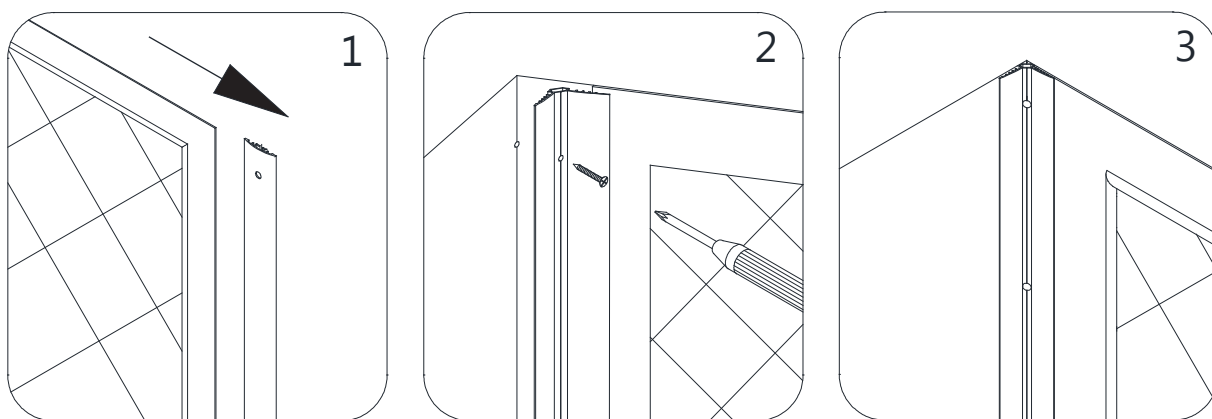

Fig 11
11. Slide the right edge of the left **Back Panel (#02)** behind the **Center Cover (#05)** and push the **Back Panel (#02)** flat against the wall up to the 1" vertical reference line in the corner. Adjust the position of the **Back Panel (#02)** before the adhesive sets. Apply equal pressure to the whole surface of the **Back Panel (#02)** from top to bottom. Fasten the **Corner Cover (#04)** to the left corner of the backwall using the **Countersunk Screws ST4.2×30 (#07)**. Do not fully tighten the corner cover screws yet. (**Fig 11**)